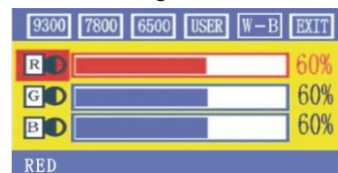

Fig.11
1. Color adjustment(): when the function is selected, the monitor will come into the sub-menu[as Fig.11], there are five functions that can be selected: a,9300k; b,7800k; c,6500k; d,USER; e,W-B.Selecting USER, you will enter user mode and you can make adjustment to R/G/B values to obtain your satisfying color;Selecting W-B, it will enter color balance mode, and the monitor will automatically adjust the white-black color reference voltage to obtain optimal color balance.